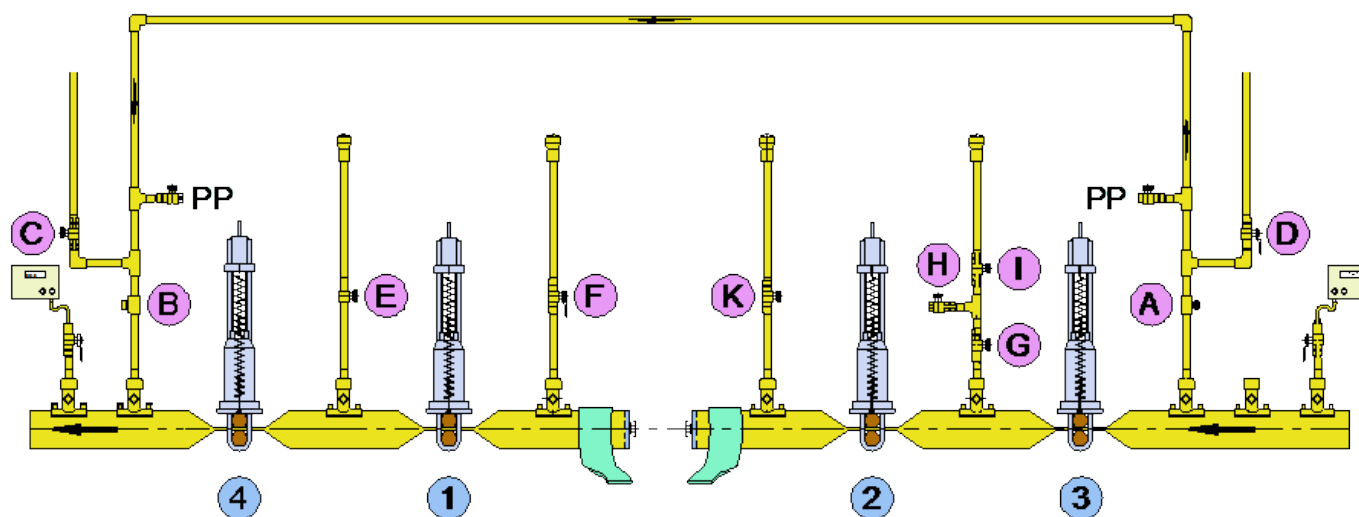

Figure 55- Cut Out Section
26. Open vent at E (see Figure 55.) and check for let by.
2. Drape damp cloths around the pipe and make sure they are in contact with the ground on each side of the cut to prevent a spark from static electricity see Figure 55.
8. Install expanding stoppers whilst preparing fittings for installation see Figure 55.